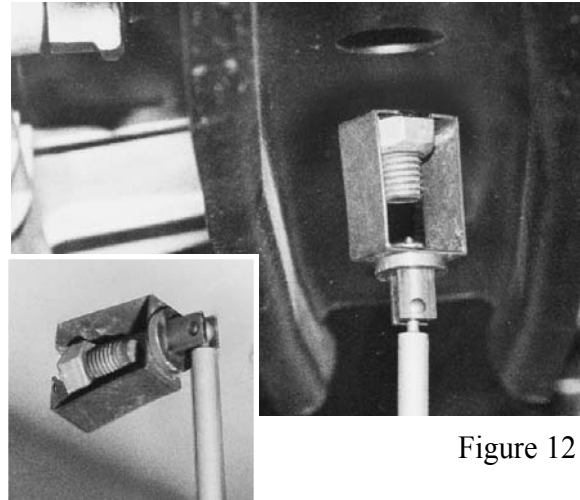

Figure 12
*Metal Clip Style 'Bolt Attachments'* have a strong gripping capability and are designed to fit a wide range of bolts (and nuts) used on a vehicle's structure. The small size grasps bolts/nuts with a 10 to 20mm diameter. The medium size grasps bolts/nuts with a 15 to 25mm diameter, and the large size grasps bolts/nuts with a 25 to 35mm diameter. (Figure 12 and its inset show an example of a nylon base bolt attachment.)